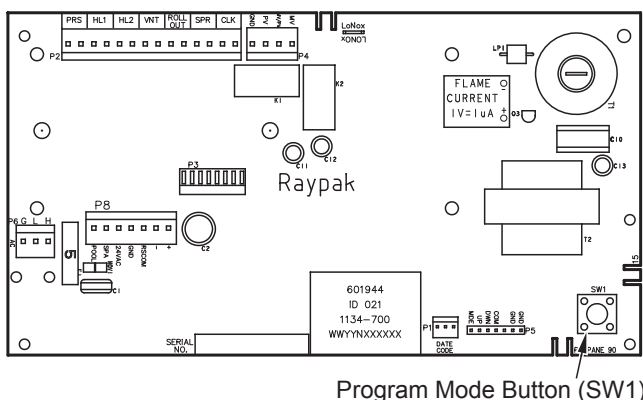

Figure 40. Thermostat Program Button (SW1)
The pool heater touch-pad located on the upper front panel of the heater, allows the user to select either POOL or SPA operation, and to adjust the setpoint temperature. The LCD display window indicates the mode (OFF, SPA, POOL) and the actual water temperature. A manual power switch provided below the touch-pad turns the control power ON or OFF. See Figure 40.
1. Remove the four screws holding the control cover, and swing the panel down so the back side of the board is visible. Locate the Program Mode button (SW1). See Figure 40. Press and hold the button for 5-7 seconds until SET FACTORY DEFAULTS appears on the display. Release the program button.